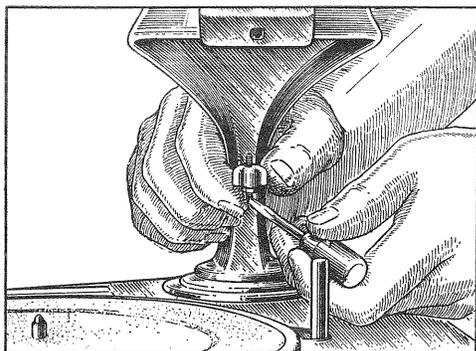

Figure 2—Adjusting height of tone arm
5. Place a Home Recording needle into the pickup as far as it will go. Then lower the pickup on the side of the turntable. The needle should extend from $\frac{1}{32}$ " to $\frac{1}{16}$ " below the top of the metal edge of the turntable. If it does not, an adjustment can be made by means of a screw located under the tone arm. Lifting the arm provides accessibility to the screw. See Figure 2.